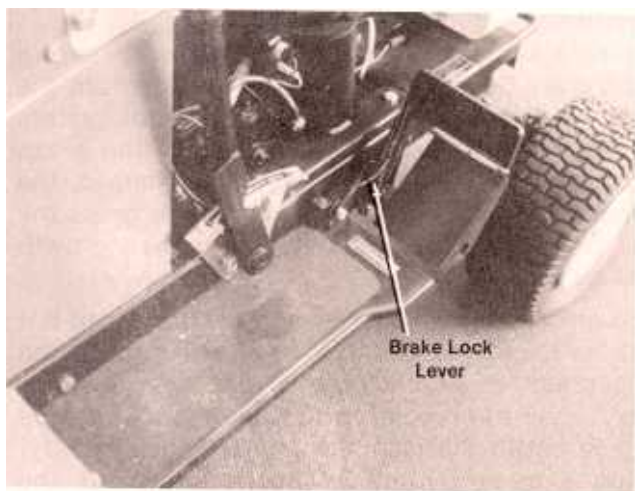

FIGURE 13.
g. Brake Lock. The brake lock is located on the right hand side of the mower. To lock the brake, depress the brake pedal and lift up the lock lever. The pedal will stay depressed. To release, depress the pedal. See figure 13.